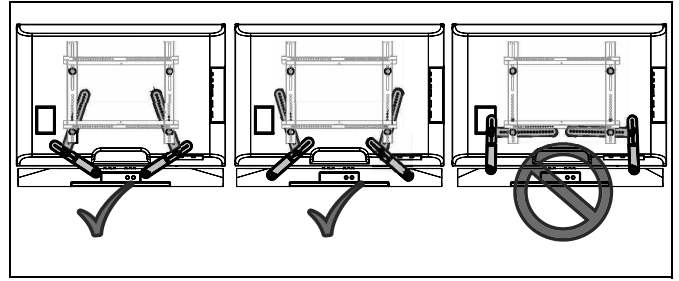

Figure 11
NOTE: The soundbar brackets (A) should be positioned as vertically as possible. (See Figure 11)